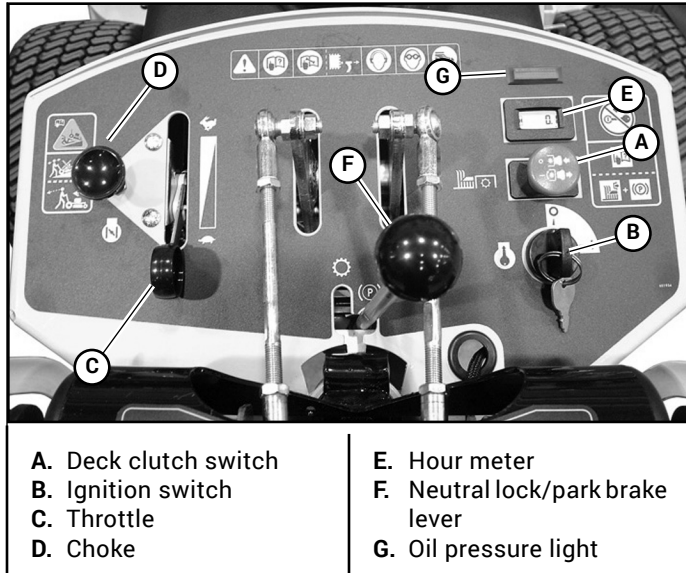

Figure 3-1
- A. **Deck clutch switch (Figure 3-1)** – this switch engages the deck. Pull the switch up to engage and push the switch down to disengage the clutch.
- B. **Ignition switch (Figure 3-1)** – (Electric start) a three position switch: “OFF”, “RUN”, and “START”. With key inserted, rotate it clockwise to the “START” position; release the key when the engine starts, and the switch will automatically return to the “RUN” position.
- C. **Throttle control (Figure 3-1)** – a cable is linked to the engine throttle for controlling engine speed. Move the lever forward to increase engine rpm, move the lever rearward to decrease engine rpm.
- D. **Choke control (Figure 3-1)** – a cable is linked to manually operate the engine choke. When the lever is in the down position, the choke is in the “OFF” (run) position. When the knob is pulled up, the choke is in the “ON” (start) position. **Do not** operate the machine in the “ON” (start) position.
- E. **Electronic hour meter (Figure 3-1)** – registers 1/10 hour increments up to 9,999.9 total hours. It is connected to the ignition switch. It records the accumulative time while the ignition key is switched to the “RUN” position.
- F. **Neutral lock/park brake lever (Figure 3-1)** – when this lever is in the neutral lock/park brake position, the transaxles are in neutral and the unit will not move.
- G. **Oil pressure light (Figure 3-1)** – this light comes on when the ignition switch is placed in the “RUN” position and stays lit until the engine is running and a safe oil pressure is developed. If the light comes on during operation, shut the engine off immediately and locate and correct the problem.